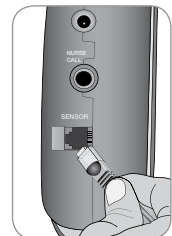

Fig. 29
6. Insert RJ11 plug into jack labeled "sensor" on right side of alarm (Fig. 29). Alarm will activate. Press the HOLD button. You have 30 seconds to transfer the patient to the chair before monitoring begins.